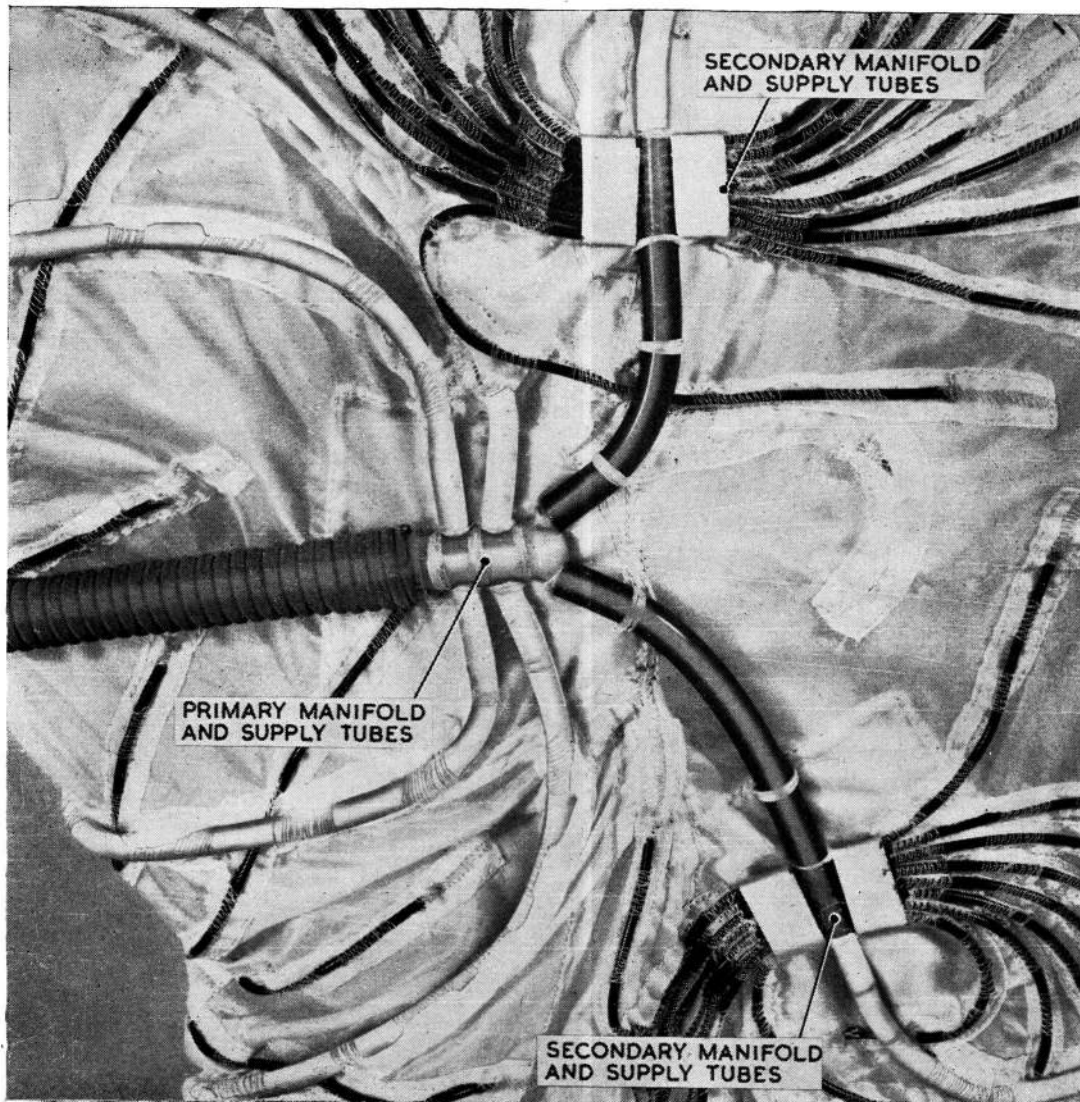

Fig. 3. Enlarged view of manifolds and tubes
5. For identification, the ventilating system of the suit has been divided into two sections referred to as "primary manifold and supply tubes" and "secondary manifolds and supply tubes". The primary manifold (*fig. 3*) has six outlet ports each of which is connected to a length of large bore P.V.C. tubing; the other ends of these tubes are connected to the secondary manifolds, of which there are six, and from there, air is carried through small bore tubes to jets through which it is sprayed or blown over the body.